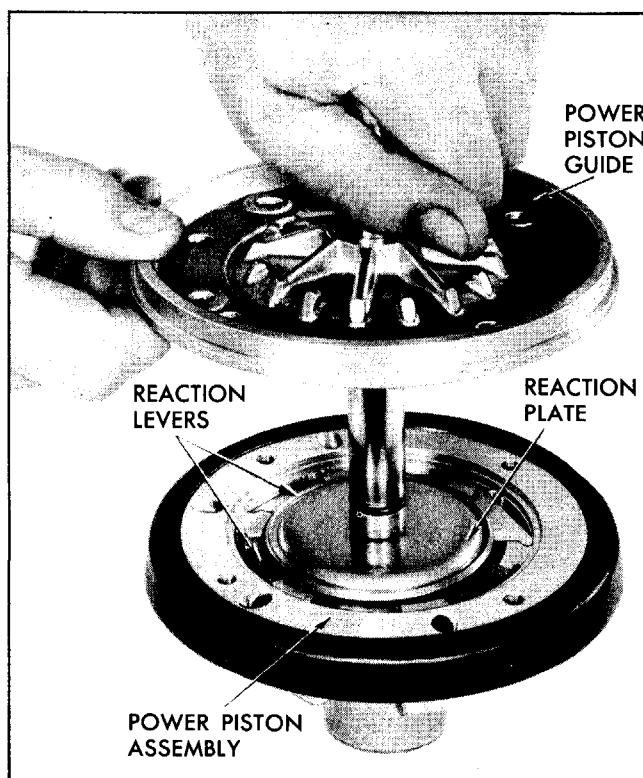

Fig. 5-67 Replacing Piston Guide to Power Piston Assembly
1. Holding master cylinder plunger assembly in one hand in vertical position with reaction plate down, start piston guide (ribbed side up) over upper end of plunger. Gently seat master cylinder plunger and reaction plate assembly onto reaction levers. Press down quickly and firmly until the six reaction levers are held in flat position. Be sure each lever is properly seated. Place hand on top of master cylinder plunger to hold in place (Fig. 5-67). Gently slide piston guide into place indexing holes to match those in piston